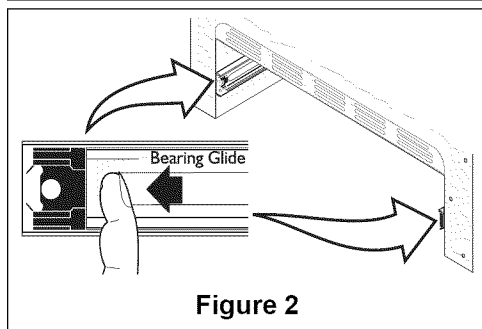

Figure 2
1. **Pull the bearing glides to the front** of the chassis glide (see figure 2).